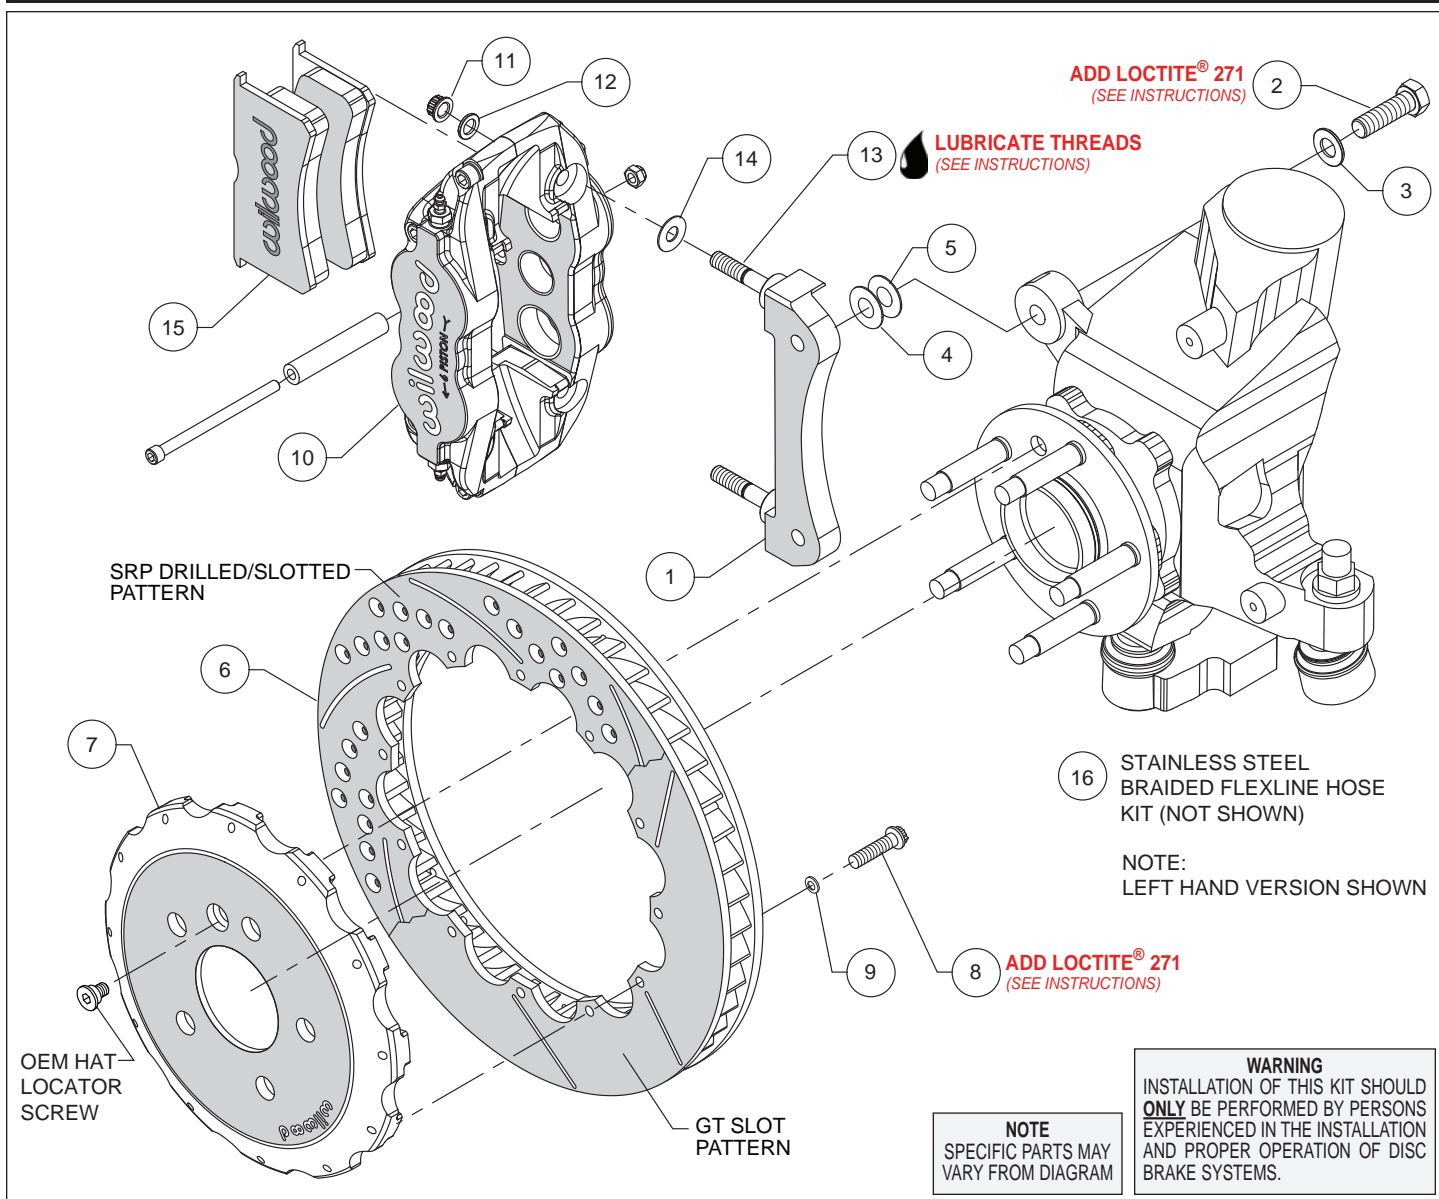
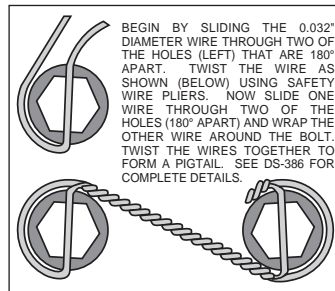

Figure 1. Typical Installation Configuration
Figure 3. Safety Wire Diagram
Assembly Instructions (numbers in parenthesis refer to the parts list and Figure 1 on the preceding pages):
- The caliper mount bracket (1) should initially be installed with clean, dry threads on the mounting bolts. Orient the bracket as shown in Figure 1 and Photo 1, and install using bolts (2) and washers (3). Initially place one .033 thick shim (4) on each bolt between the bracket and upright, Figure 1. Temporarily tighten the mounting bolts. **NOTE:** *The bracket must fit squarely against the mount bosses on the upright.* Inspect for interference from casting irregularities, machining ridges, burrs, etc. Later, after the caliper alignment has been checked, the mount bolts will be secured using red *Loctite*[®] 271.
- Orient the rotor (6) and the hat (7) as shown in Figure 1 and Photo 2. Attach rotor to hat using bolts (8) and washers (9). Using an alternating sequence, apply red *Loctite*[®] 271 to the threads, and torque to 155 **in-lbs**. For an added measure of security, the bolts may be safety wired using standard 0.032 inch diameter stainless steel safety wire as shown in Figure 3. Please refer to Wilwood's data sheet DS-386 (available at www.wilwood.com/Pdf/DataSheets/ds386.pdf) for complete safety wire installation instructions.
- NOTE:** *This kit contains distinct right and left hand calipers that must be mounted in a specific direction, as described below.* Lubricate the caliper mounting studs (13) with lightweight oil. Initially place one .035" thick shim (14) on each stud as shown in Figure 1 and Photo 4. Mount the caliper (10) onto the bracket (1) using lock nuts (11) and washers (12), Figure 1. Ensure that the caliper is mounted so that the largest pistons are at the rotor exit end of the caliper, in relation to the direction of rotor rotation. Temporarily tighten the lock nuts and view the rotor through the top opening of the caliper. The rotor should be centered in the caliper, Photo 5. If not, adjust by adding or subtracting shims (4 and/or 5) between the bracket and the upright. Always use the same amount of shims on each of the two mounting bolts. Once the caliper alignment is correct, remove the bracket mounting bolts (2) one at a time, apply red *Loctite*[®] 271 to the threads, and torque to 60 ft-lb.